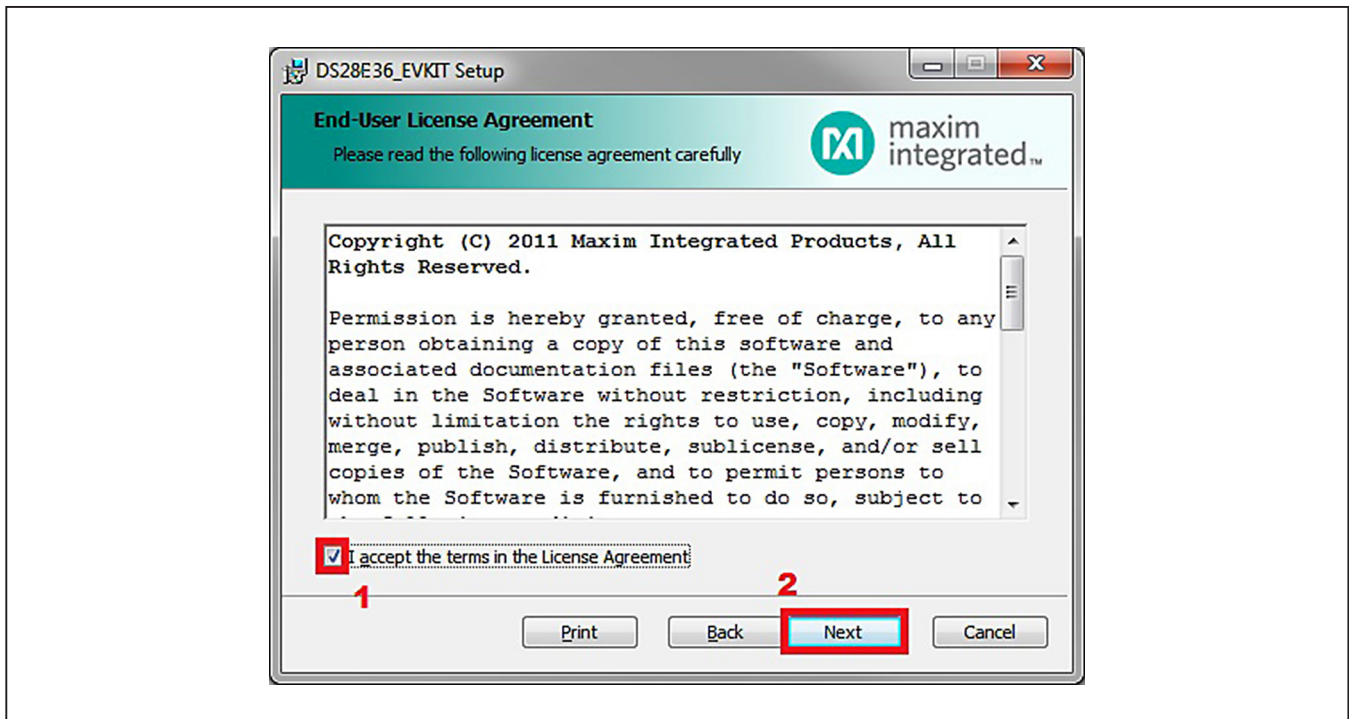

Figure 4. License Agreement Setup Wizard
- 4) Read and check the box for the license agreement and click on **Next** again to install to the selected folder (Figure 4).